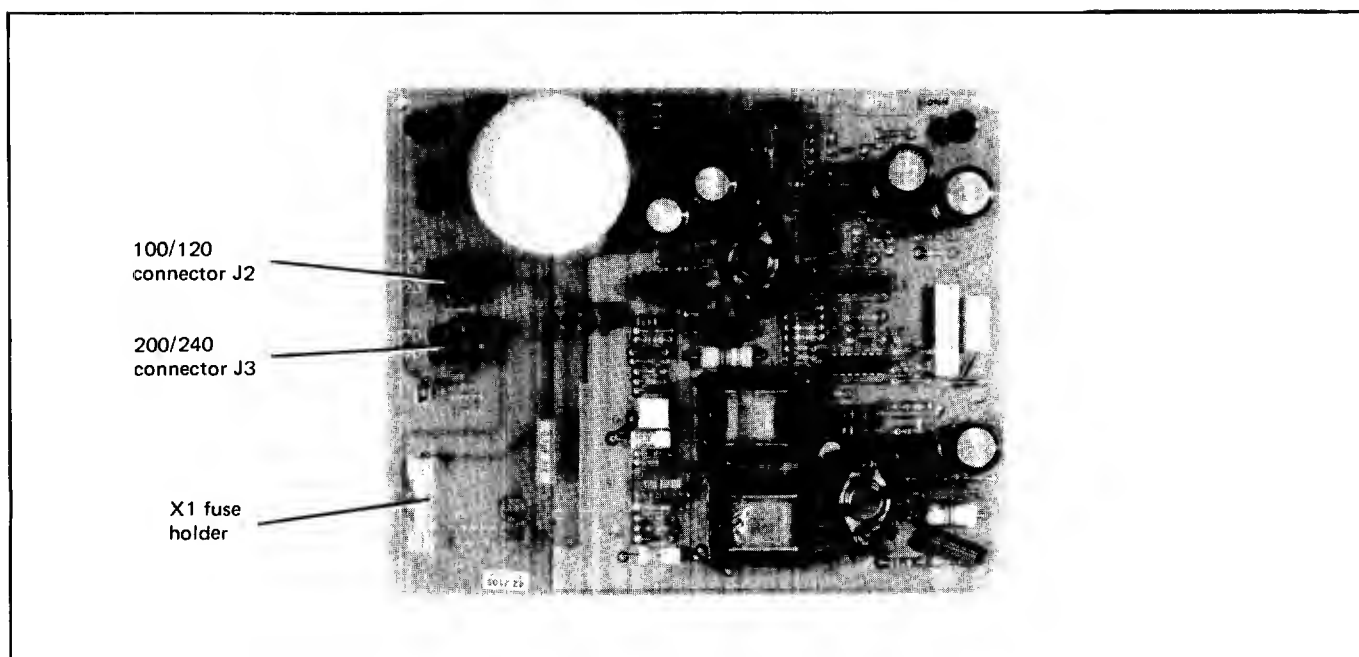

Fig 2-5 2621B Power Supply
3. Check that the fuse is inserted in the correct set of fuse holders (figures 2-5 and 2-6). For 2621B-050, the Power Supply PCA must be removed to check the fuse.